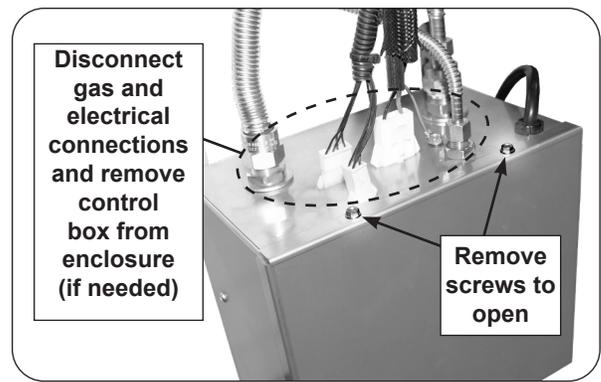

Fig. 4-1 Access control box
1. Locate and disconnect all the gas and electrical connections from the control box (see Fig. 4-1).
4. Open the control box by removing the two 1/4" hex screws and opening the cover plate (see Fig. 4-1).